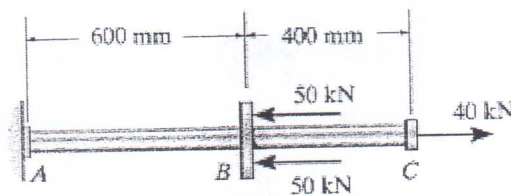

Figure 4.
- (7) The 20 mm-diameter steel rod, shown in Figure 4, is subjected to the axial forces shown. Determine the displacement of end C with respect to the fixed support at A . ($E = 200 \text{ GPa}$.)